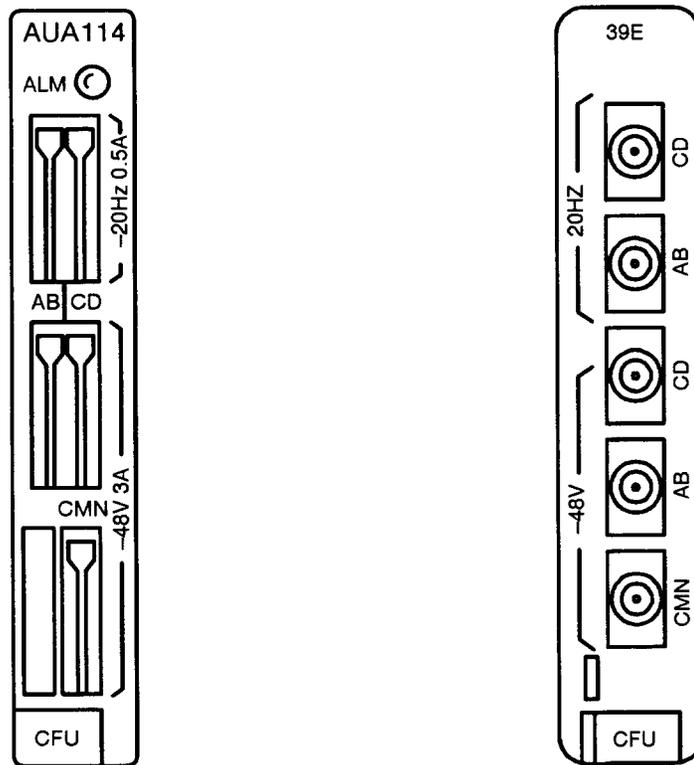

Figure 1 — AUA114 and 39E Channel Fuse Unit
1. Get **AUA114** or **39E CFU** (FIG. 1) and inspect for possible damage.